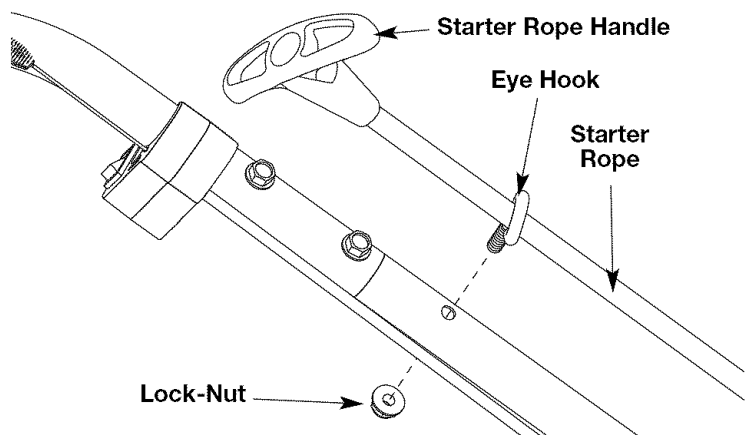

Fig. 6
17. Pull out the starter rope and run it thru the eye hook (Fig. 6).